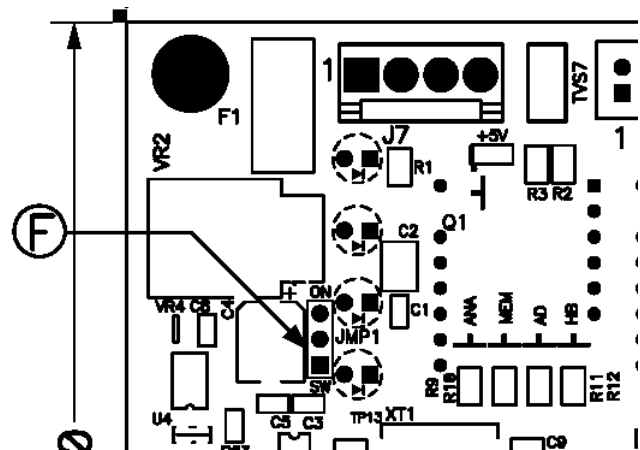
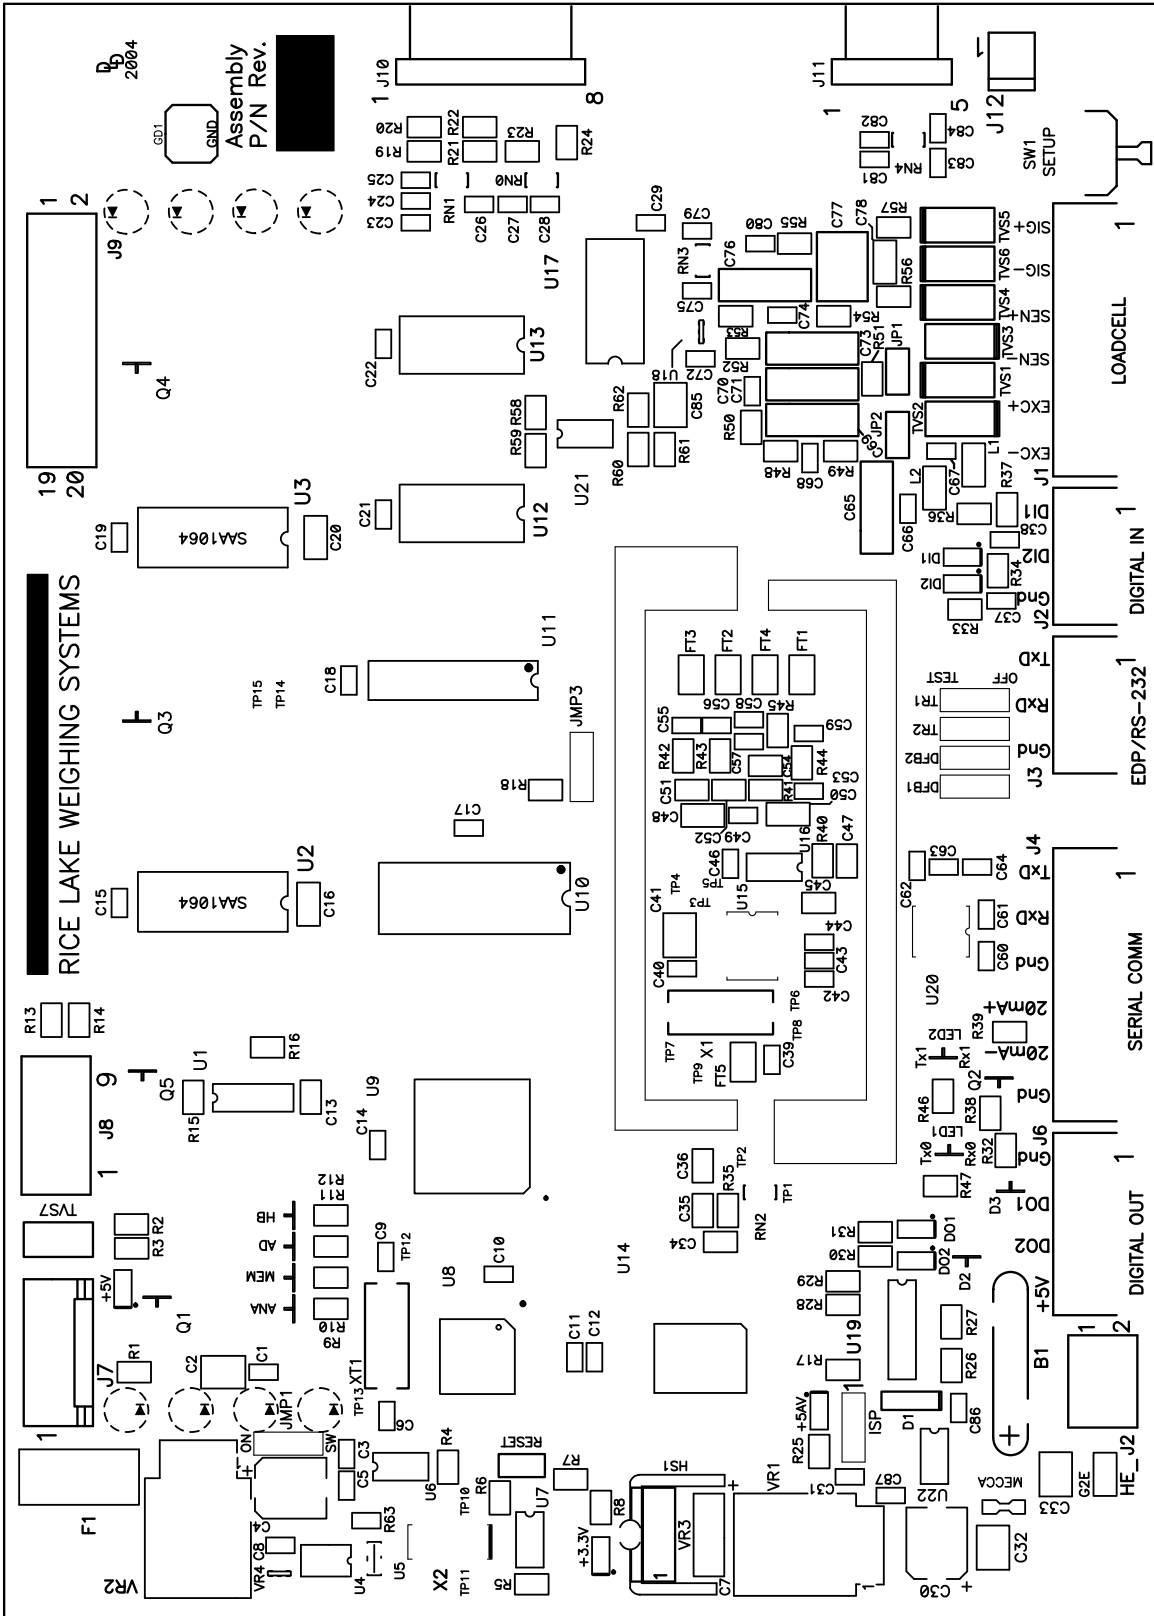

Figure 2-3. 420 Plus CPU and Power Supply Board JMP1 Shunt Location
Figure 2-4. 420 Plus CPU and Power Supply Board
- Two, six-position screw terminals (PN 70599) for connectors J4 & J1, two, three-position screw terminals (PN 71125) for connectors J2 and J3, and one, four-position screw terminal (PN 71126) for connector J6 (see figure 2-4).
If jumper JMP1 is set for SW position, the power switch on the front panel of the indicator will turn the unit ON or OFF. If it is not in the SW position, the indicator will power up as soon as the AC is applied. This allows the front panel overlay power control switch to be bypassed. Label “F” in Figure 2-3 shows the location of JMP1. Figure 2-4 on page 10 shows entire board.
To attach cable from a load cell or junction box, remove connector J1 from the board. The connector plugs into a header on the board as shown in Figure 2-4 10.
Using one of the 6-position connectors, provided in the parts kit, wire the load cell cable from the load cell or junction box to connector J1 on the CPU board (See Figure 2-4 10). If using six-wire load cell cable (with sense wires), remove jumpers JP1 and JP2 before reinstalling connector J1 (see Figure 2-4). For four-wire installation, leave jumpers JP1 and JP2 on. When connections are complete, reinstall connector J1 onto the header so that it snaps securely into place. Use two cable ties to secure the load cell cable to the inside of the enclosure.
Once cables are attached, reconnect J3 and J4 to the headers on the board (see Figure 2-4). Use cable ties to secure serial cables to the inside of the enclosure.
Mount the analog output module on its standoffs in the location shown in Figure 2-4 10 and plug the module input into connector J9 on the 420 Plus board. Connect output cable to the analog output module as shown in Table 2-5, then reassemble the enclosure (Section 2.5).
3. Unplug connectors J1 (load cell cable), J2 (digital inputs), J3 (EDP/RS-232), J4 (serial communications), J6 (digital outputs), and J10 & J11 (keypad ribbon cables). If an analog output board is installed, disconnect the analog output cable. See Figure 2-4 10 for connector locations.